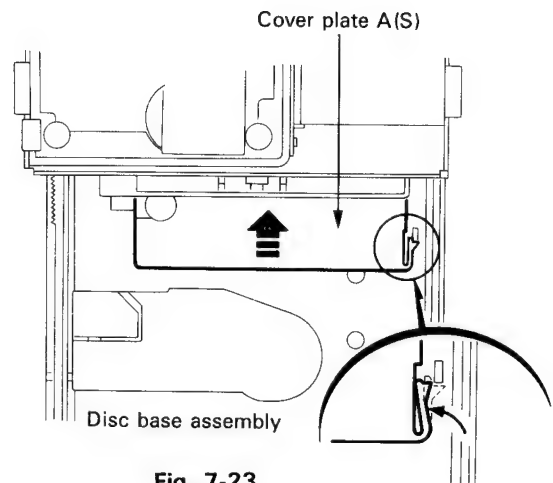
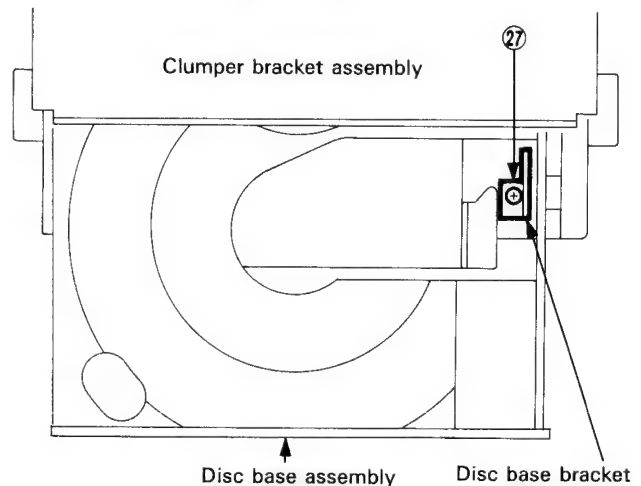

Fig. 7-23
Fig. 7-24
(Refer to Figs. 7-23 and 24)
3. After turning over the CD changer mechanism assembly, turn the gear G4 manually in the direction of arrow as shown in Fig. 7-23, and raise the CD mechanism assembly.
5. After turning over the CD changer mechanism assembly, move the point ㉔ engaging the cover plate A (S) and disc base assembly in the direction of arrow and disengage the above plate and assembly.
6. After turning the CD changer mechanism assembly back to the normal position, remove the one screw ㉔ retaining the disc base bracket visible from notched window of the disc base assembly (Refer to Fig. 7-24).